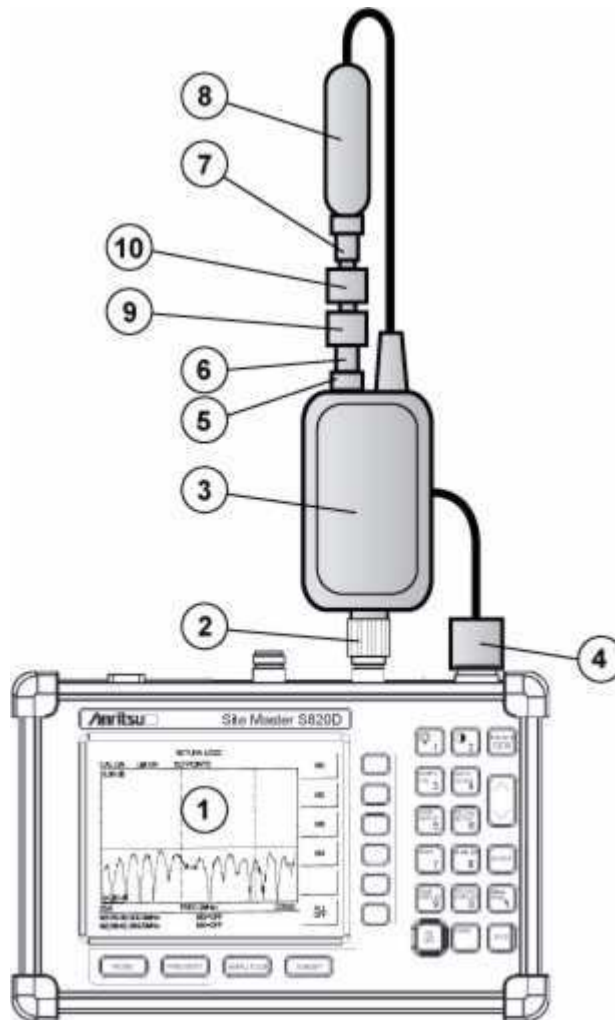

Figure 2-12. Two-Port Cable Loss Measurement Verification with 10 dB and 20 dB Attenuators
- 12.** Connect the Anritsu 43KC-10 10 dB Attenuator between the detector and the CW Source Module (or between the 34NKF50 and 34NFK50, as shown in Figure 2-12 above).
Table 2-5. Callout Index for Figure 2-12, “Two-Port Cable Loss Measurement Verification with 10 dB and 20 dB Attenuators”